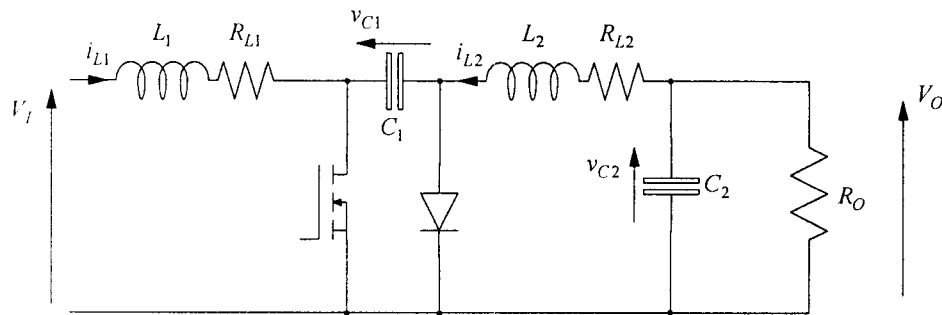

Figure 5.1
- (a) Derive an expression for the output voltage to input voltage ratio of a Ćuk switch-mode power supply (SMPS), shown in figure 5.1, and state any assumptions made.